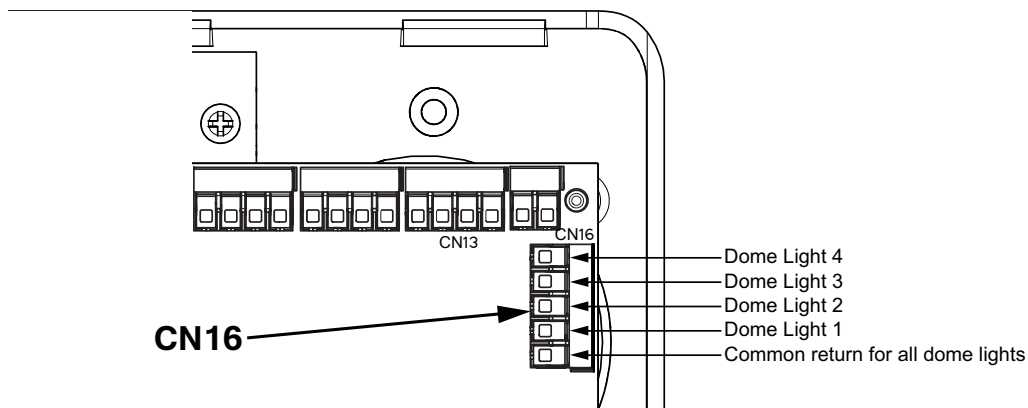

Figure 13 Dome light connections on terminal CN16
- **Dome lights:** there are 4 powered outputs for an external 4-light dome light - see Figure 13. Mircom supplies the NC-4LED Corridor Light. Other dome lights are available through third party manufacturers.
Dome lights connect to terminal CN16, a 5-position screw down block. There are 4 live outputs and a common return for a 5-wire 4-light interface (see Figure 13). These relays are limited to 500 mA maximum each.